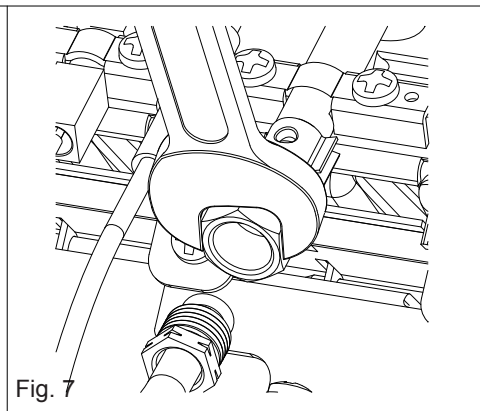

Fig. 7
- insert the injector and seal contained in the transformation kit (fig. 7),